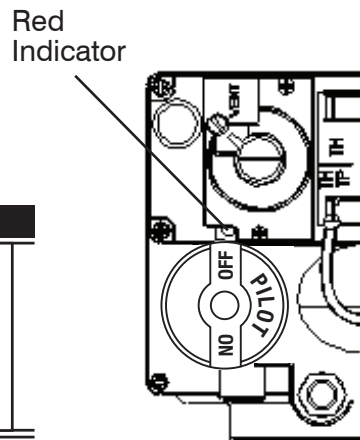
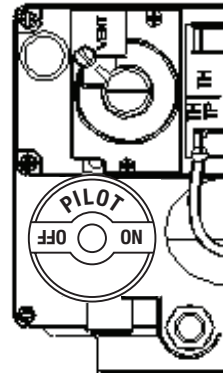

Fig. 2
Fig. 3
3. Turn the knob of the combination gas valve (Fig. 2) from "OFF" to "PILOT", ensure "PILOT" aligns with "dot" shown in Fig. 3